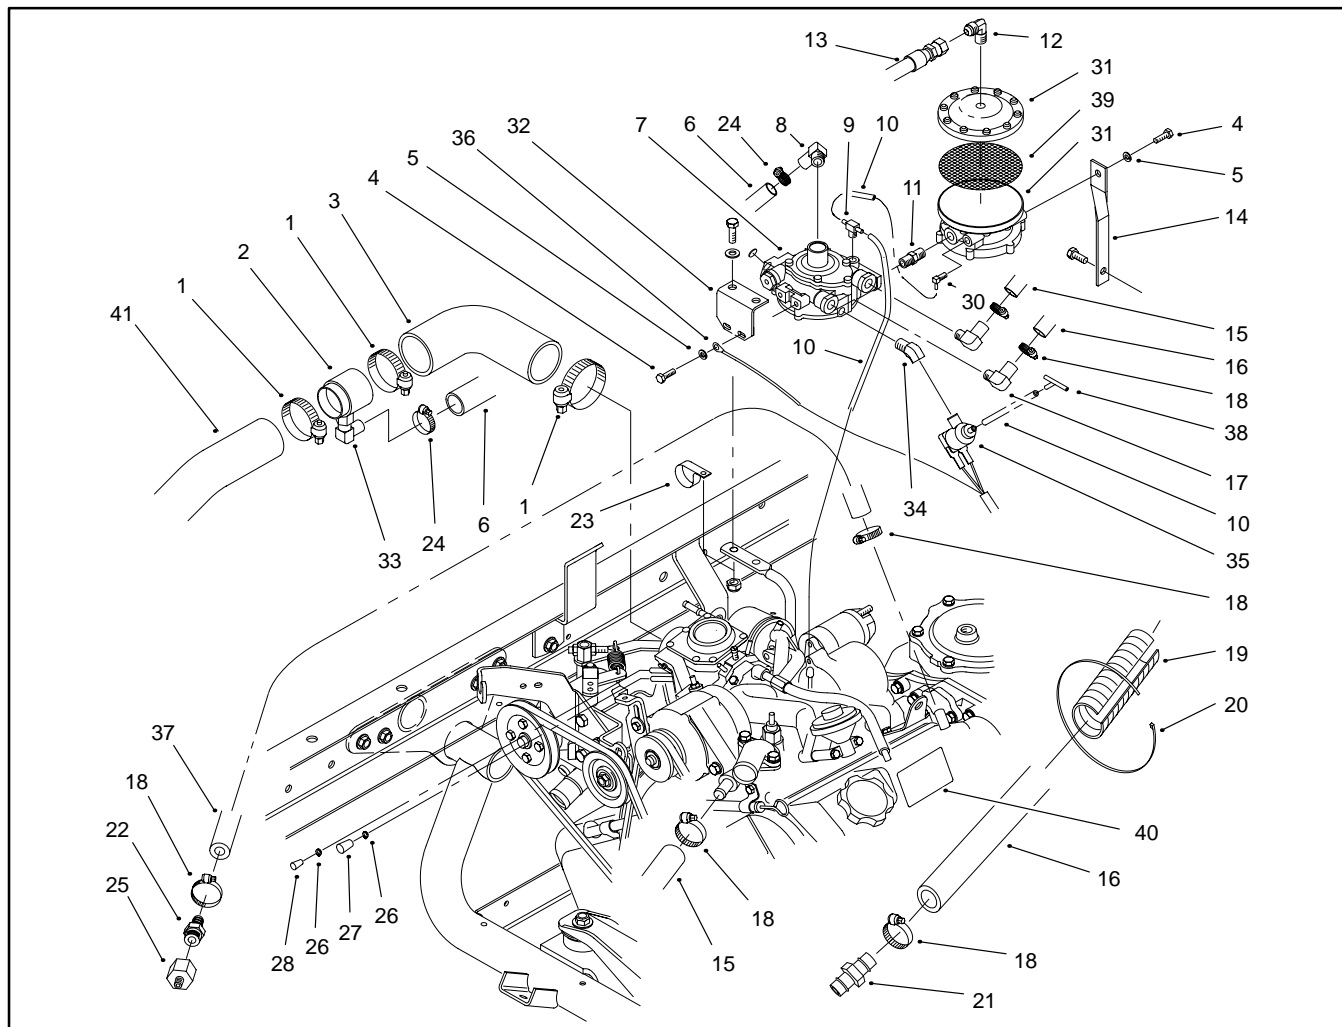

Figure 10
3. Remove component parts as necessary using Figure 10 as a guide.
2. Install component parts as necessary using Figure 10 as a guide.